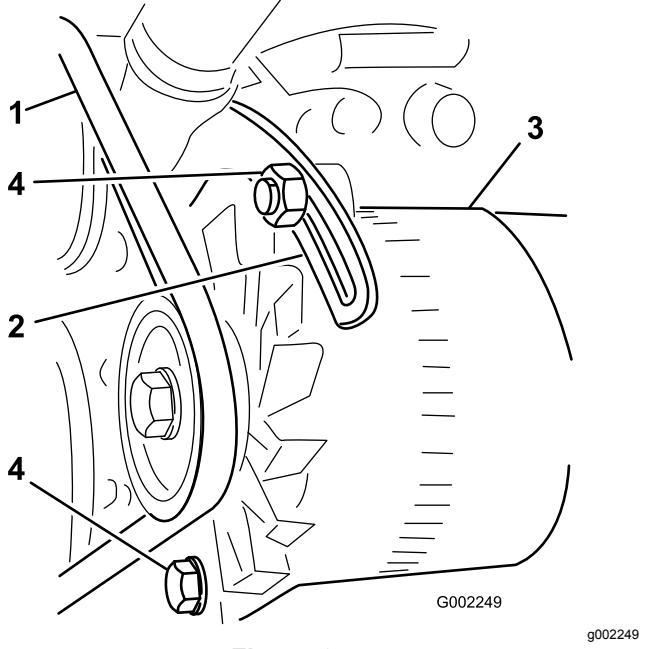

Figure 95
3. Loosen the bolt at the pivot point of the alternator; loosen the bolt that secures the alternator to the slotted brace (Figure 95).